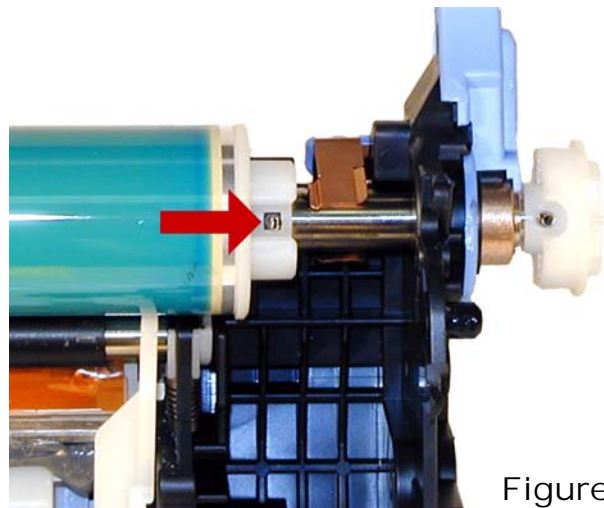

Figure 19
7) With the wire cutters, carefully pry the pin out from the internal drum hub. There is no need to remove the pin from the external drum drive gear. This pin is in tight and is hard to remove. Take your time, and pry not pull the pin out. See Figure 19